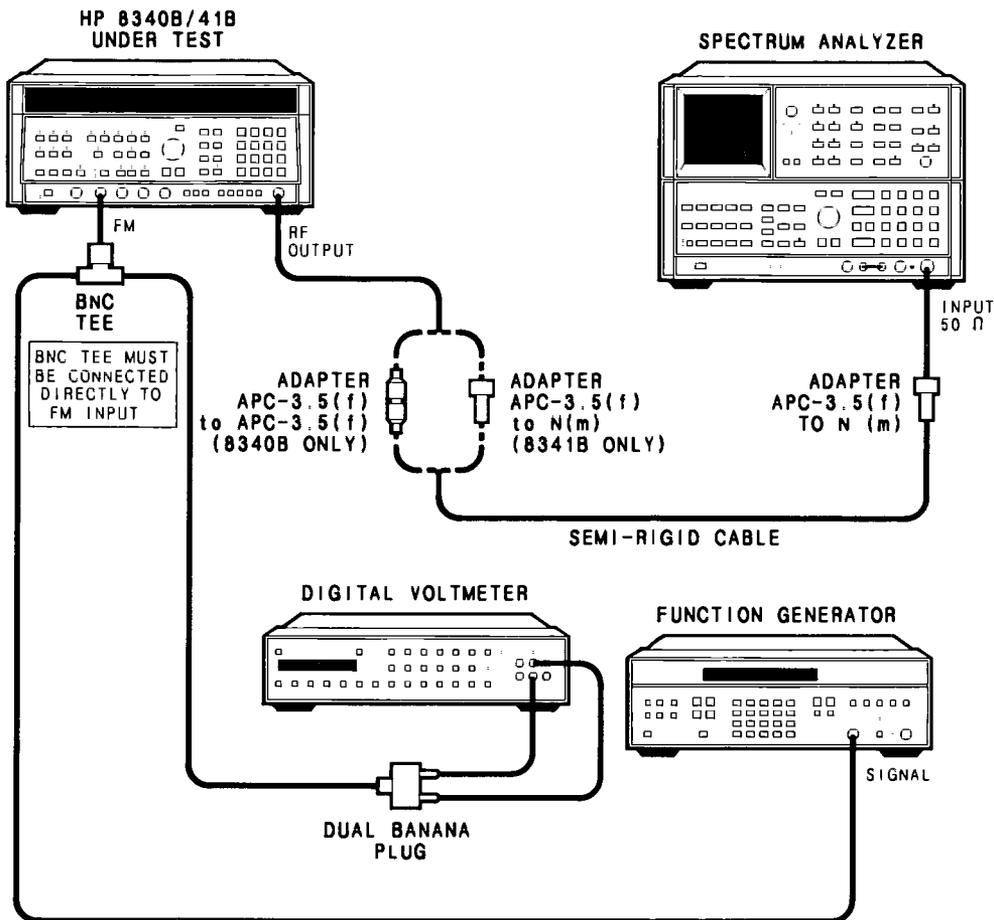

Figure 4-20. FM Accuracy Setup
1. Connect the equipment as shown in Figure 4-20, FM Accuracy Setup. The BNC Tee should be connected directly to the DUT's FM input BNC.